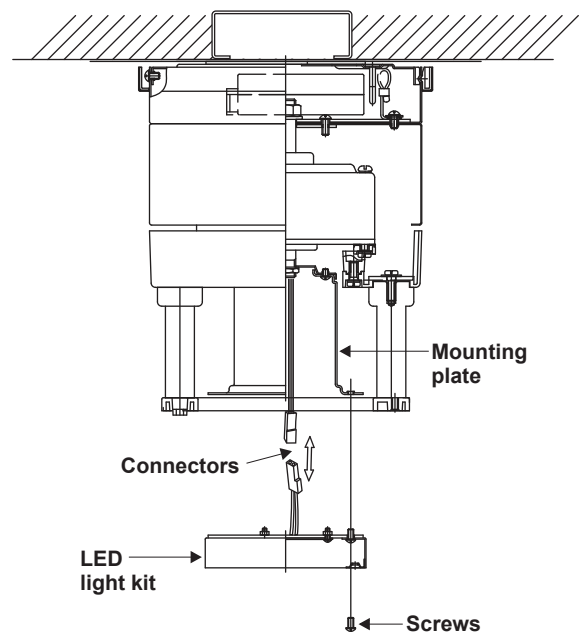

Figure 11
2. Raise and hold the LED light kit close to the mounting plate and proceed to do the wire connections. Make the 2-pin wire connections: (Fig. 11)